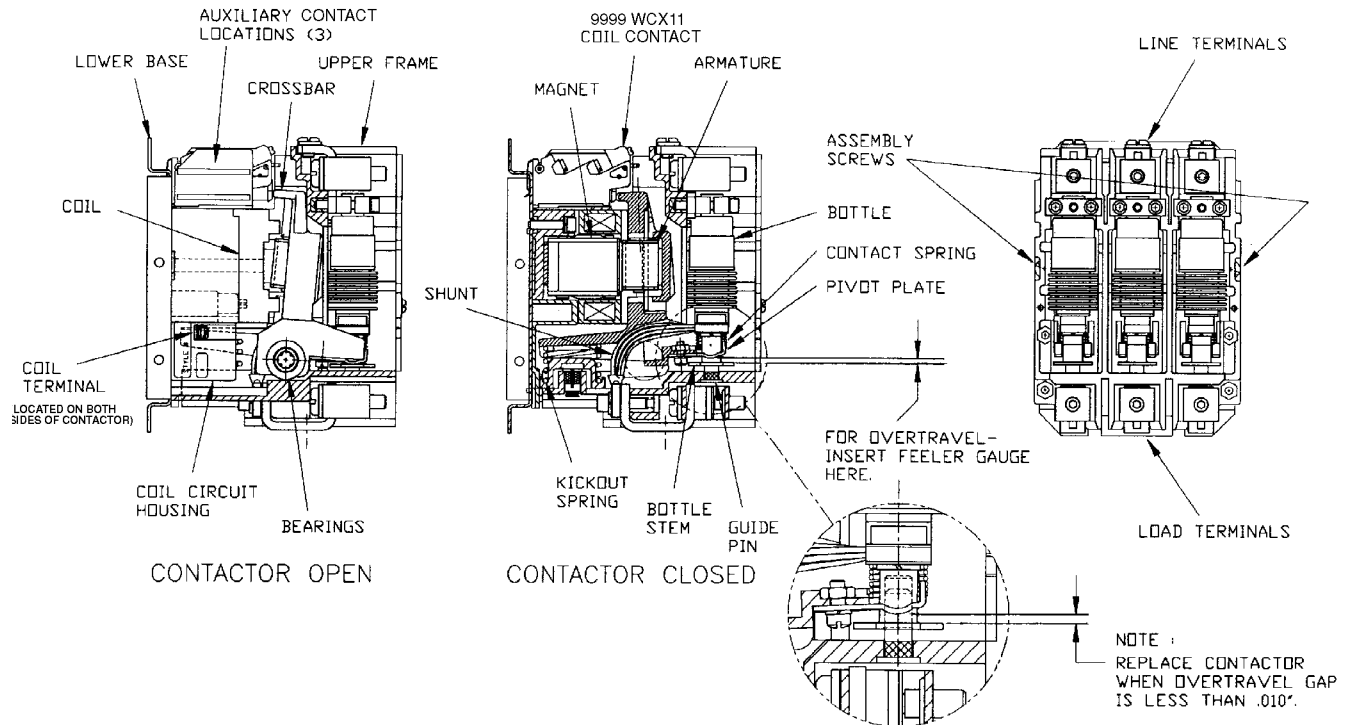

Figure 1 Size 4 Vacuum Contactor, Class 8502 Type WFO
The contactor coil accepts AC control power connected directly to the coil terminals as shown in Figure 1 on page 5. However, the coil assembly uses a full wave rectifier to pass DC power through the coil winding. A capacitor and resistor are switched in series with the coil winding just before the armature fully closes to reduce the coil current and prevent overheating. All of the coil components are encapsulated.
When the contactor is fully closed, there is a gap between the pivot plate and the bottle stem as shown in Figure 1 on page 5. This gap is a measurement of the contact overtravel and is equivalent to the contact wear allowance provided on a new contactor. During the life of the contactor, contact material continually vaporizes from the contact faces and condenses inside the bottle, reducing the overtravel. Periodic measurement of this overtravel provides an indication of contact wear. **Do not re-adjust bottle position, which is set at the factory.**
1. Disconnect all power. Test to make sure there is no voltage present at the main power terminals or at the coil terminals. Coil terminal location is shown in Figure 1 on page 5.
5. Use the 0.010" thick fork-shaped overtravel gauge supplied to measure the gap between the pivot plate and the bottle stem as shown in Figure 1 on page 5. If the gap is more than 0.010" on all bottles, the contacts are suitable for further use. If the overtravel gauge will not fit into the gap on any bottle, the contactor must be replaced.